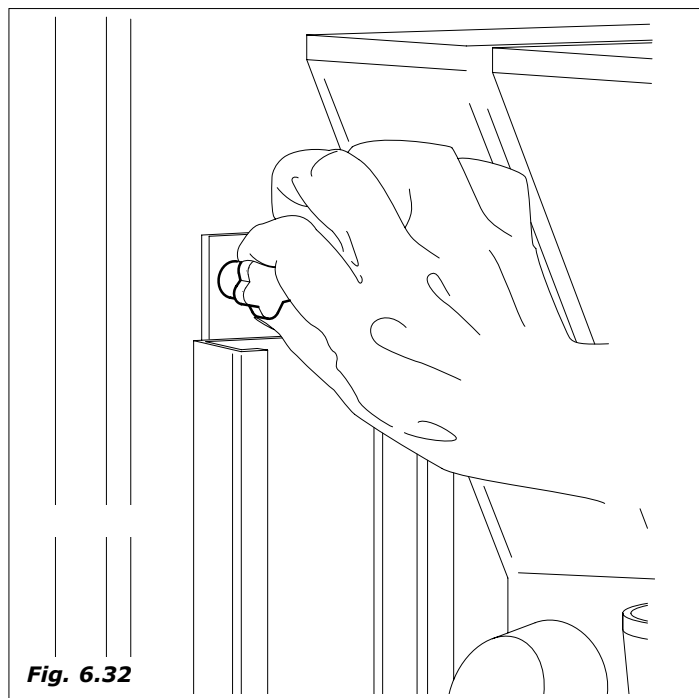

Fig. 6.32
- loosen without completely unscrewing the knob that fixes the stirrer holder (Fig. 6.32)